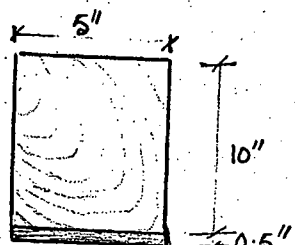

Figure 4
5. The simply-supported beam cross-section shown in Figure 4 is a composite beam where the upper 5" × 10" is made up of wood and the bottom 0.5" × 5" strap is made of steel. If this beam is subjected to a uniformly distributed load of 600 lb/ft, what are the maximum stresses in the wood and steel? Neglect the weight of the beam and assume $E_s = 30 \times 10^6$ psi and $E_w = 1.6 \times 10^6$ psi. (14)